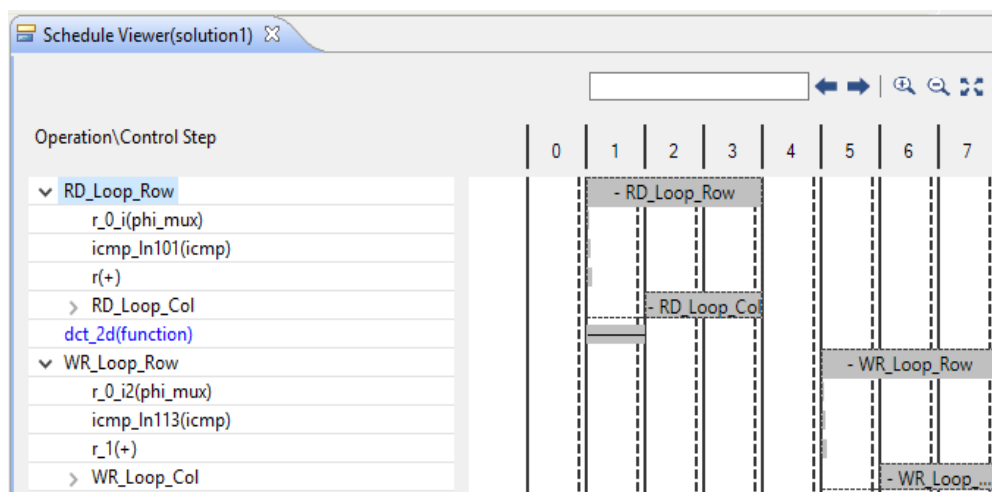

Figure 6-8: Expanded View of RD_Loop_Row
The Performance view is also shown (on the right side of Figure 6-8). This view shows how the operations in this particular block are scheduled into clock cycles.
2. Click loop **RD_Loop_Row** and sub-loop **RD_Loop_Col** to fully expand the loop hierarchy (Figure 6-8).